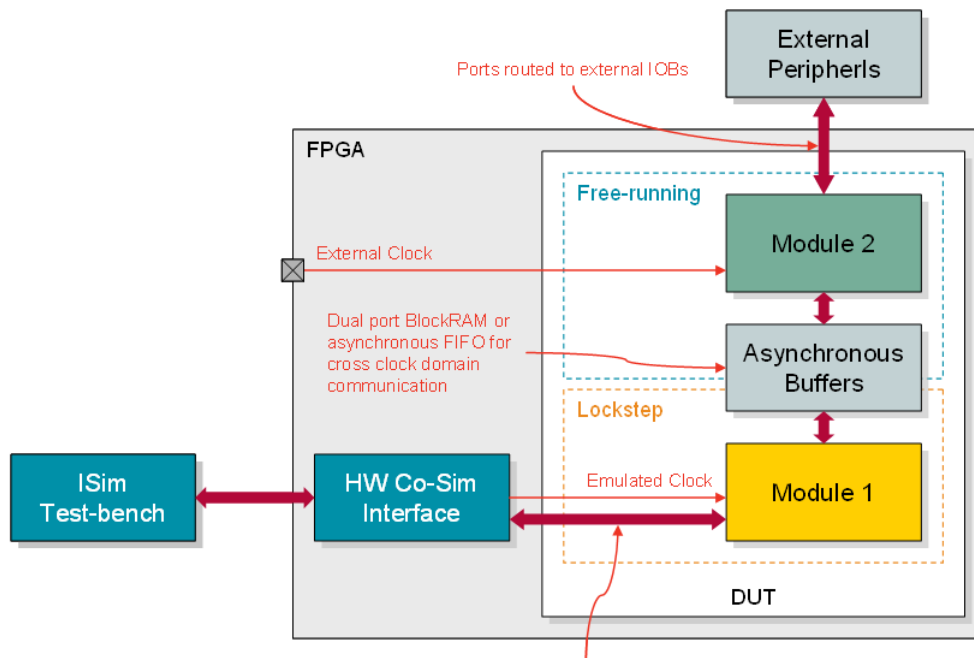

Figure 8-4: Determining Lockstep and Free-running Design Portions
1. Decide which portion of your design to run in lockstep with ISim simulation and which to be free-running. Figure 8-4, page 89 outlines the concept: